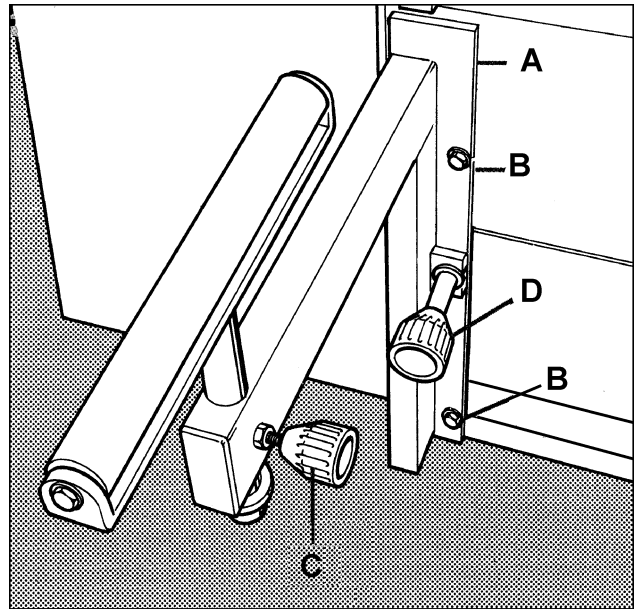

FIGURE 16
1. Mount the hinge plate (A-Fig. 16) of the roller support to the frame using the two bolts (B-Fig. 16).
2. The roller must be adjusted to the height of the saw table by loosening the knob (C-Fig. 16).
3. The entire support can be swung aside by loosening lower knob (D-Fig. 16)